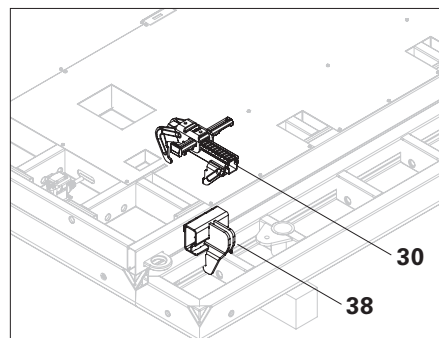

Fig. B1.09
2. Attach Adapter Connector MXH (38) to the frame strut in Panel MX 30 with the claws. Adapter Connector MXH is positioned on the top edge of the Heated Formwork Panel. (Fig. B1.09)